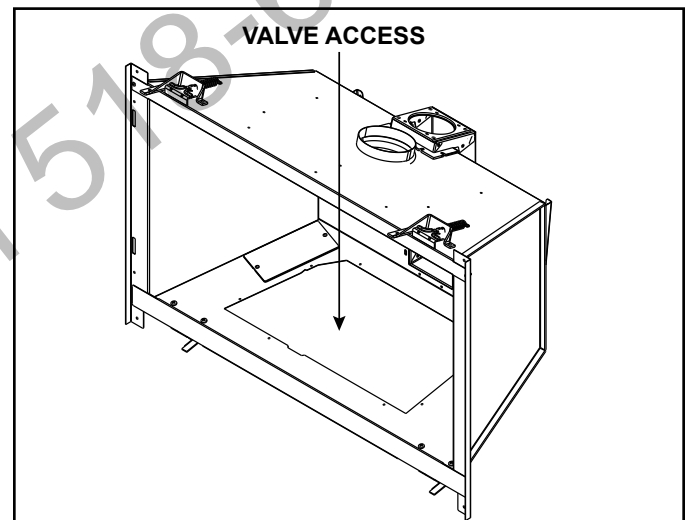

Figure 4 Valve Access
6. For full valve access, see Figure 4.